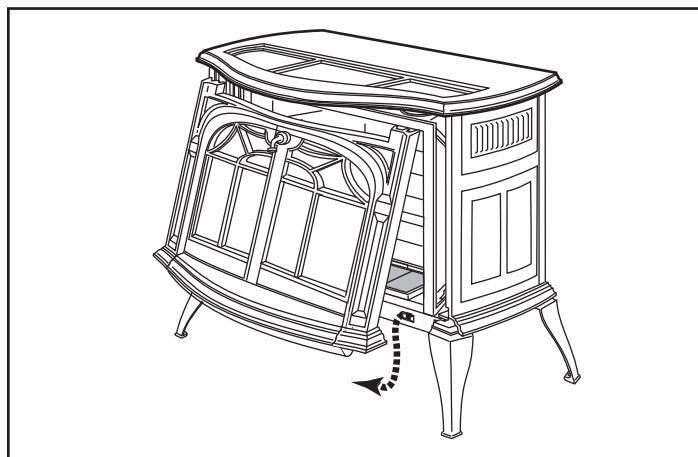

Figure 4 - Remove the front plate.
2. Remove the Front Plate. Grasp one side and the bottom, and lift the front plate as a unit (the control door attaches to the stove front). Swing the bottom edge out and away from the stove body, (Figure 4)